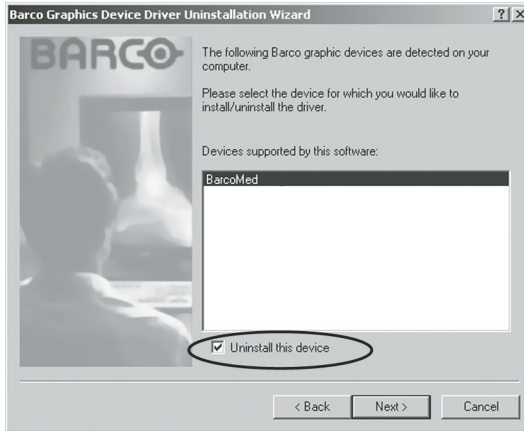

Figure 47
5. On the next screen (see figure 47 on page 149), **check** the checkbox next to "Uninstall this device" and click **"Next"** to continue.